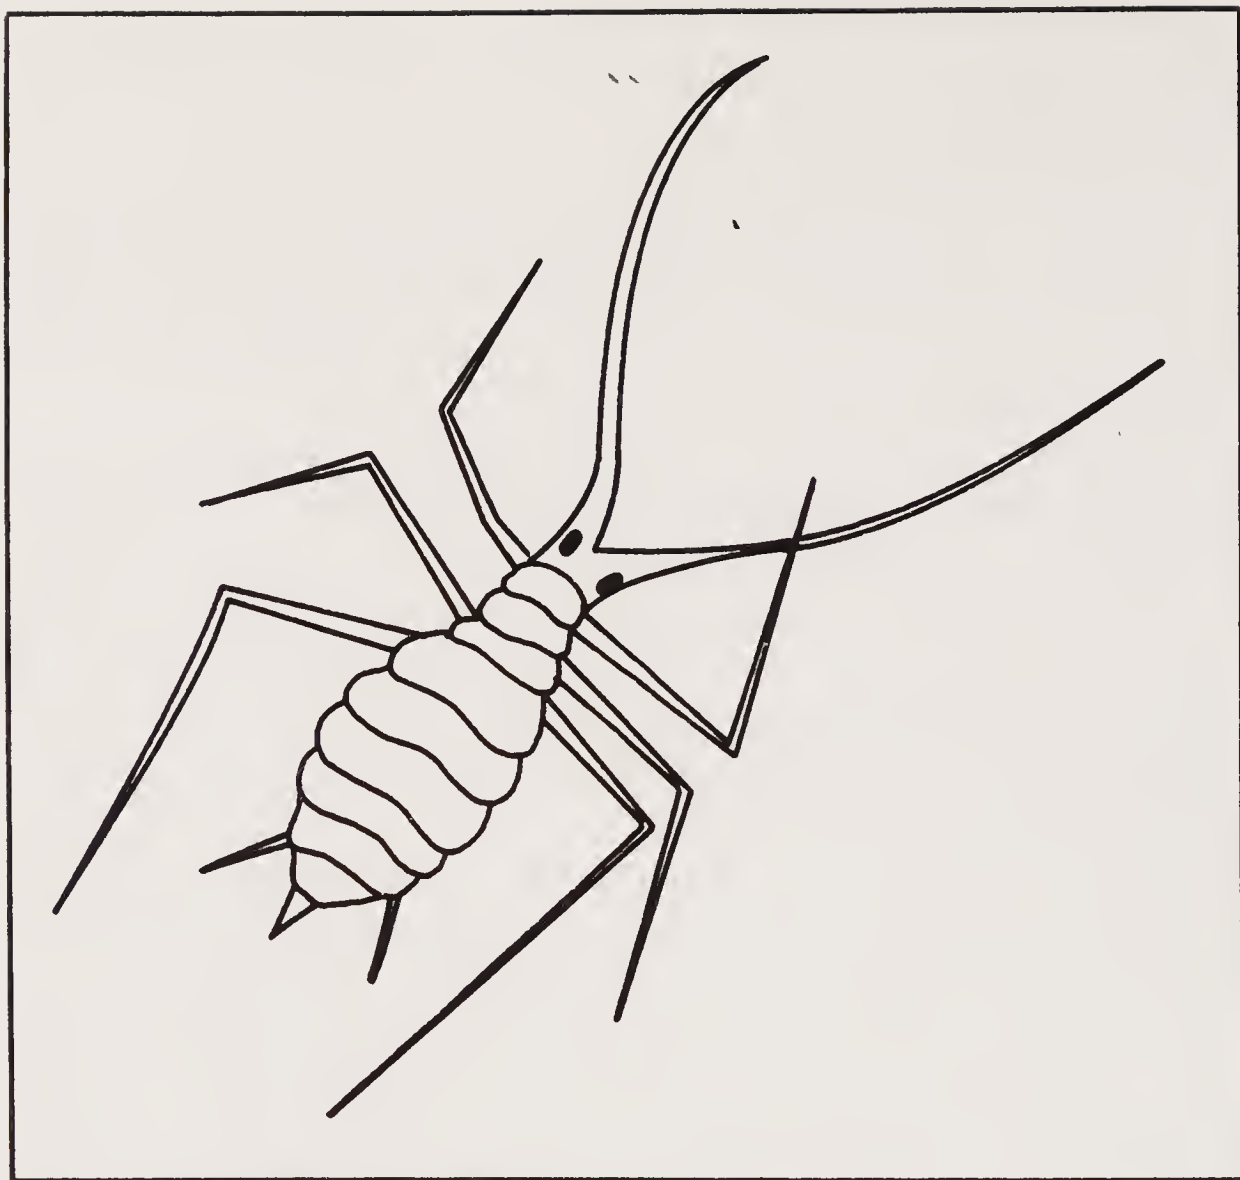

Fig. 3-7. Aphid (courtesy of John Wahlfeldt).
☐ Insects with piercing-sucking mouthparts. These insects have beak-like mouthparts used for piercing the plant tissue and sucking the plant juices—the plant's life blood. Scales, aphids, whiteflies, mealybugs are examples. See Fig. 3-7.
**Aphids.** Also known as plant lice, aphids are small, soft-bellied and 1/16" to 1/8" long. They are green/pink, red, or black with soft rounded or pear-shaped bodies with long legs and antennae (Fig. 3-7). In each species, there are both winged and wingless forms. The wingless form is generally more numerous. They cluster on the underside of leaves or on young, tender leaves and stems or flower buds.